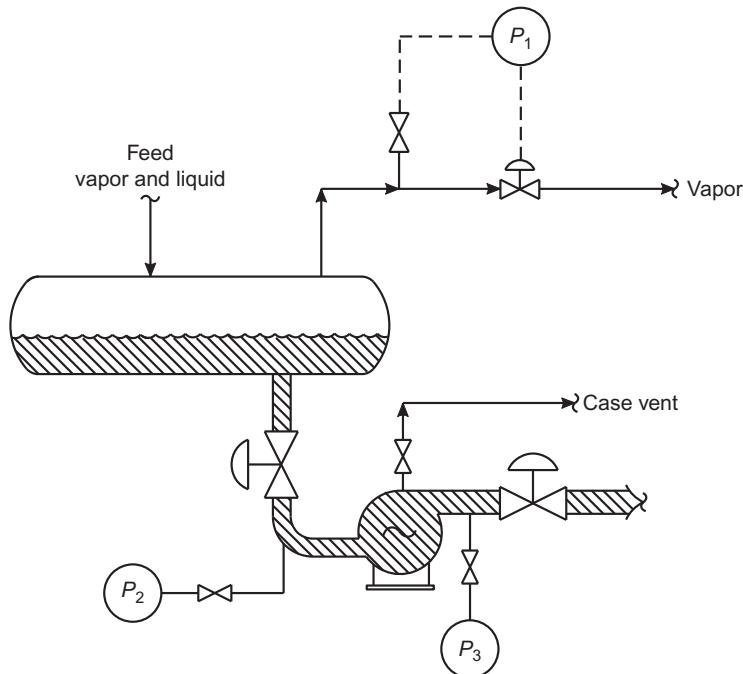

FIG. 30.3 A sudden increase in drum pressure temporarily increases available NPSH for start-up.
"There is a more fundamental reason for supplying available NPSH in excess of the manufacturer's NPSH tabulated on the pump performance curve. Let's take a look at Fig. 30.3. Initially, when an operator starts a centrifugal, motor driven pump, he 'primes' the pump by:
5. Then, open the discharge valve the rest of the way, as fast as possible, but as limited by not losing the pump *suction* pressure (P_2 —Fig. 30.3).
“But I learned at University that it’s also bad for the pump if it cavitates. So it seems to me that it’s best to watch the discharge pressure. And, if the discharge at P_3 (Fig. 30.3) becomes erratically low, open up the discharge valve slower.”
“Look at Fig. 30.3. When a pump starts, stagnant liquid in the suction line has to be accelerated to maybe 3 ft per second. Here’s the point:
“First we’ll increase the drum set point pressure by 10 psi. Next, open the discharge valve (see Fig. 30.3) by $\frac{1}{4}$ of a turn. Then start the pump, and open the discharge valve in a few minutes all the way.